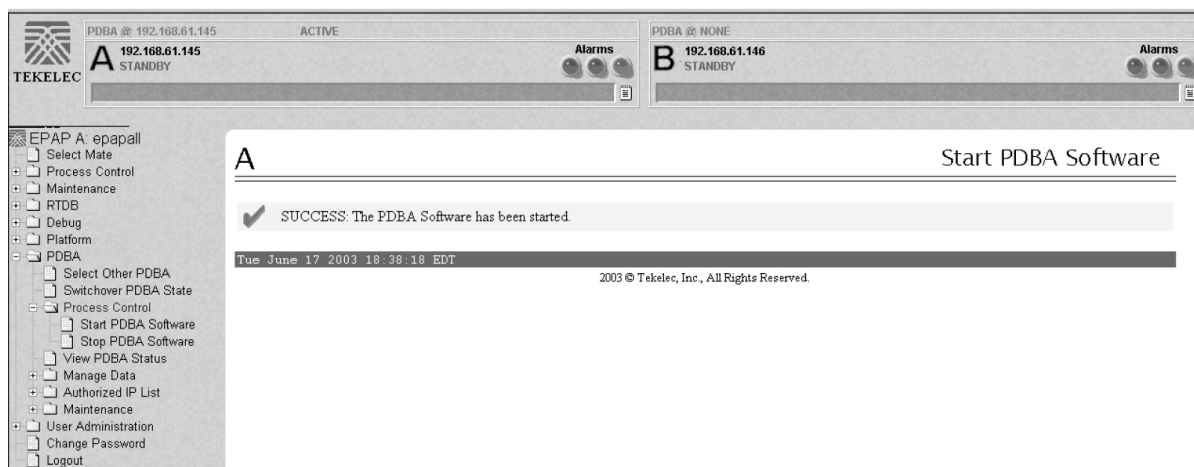

Figure 39: PDBA Started
6. When the PDBA software has been started, the window shown in Figure 39: PDBA Started displays, and within moments the banner will show the PDBA status as ACTIVE or STANDBY.